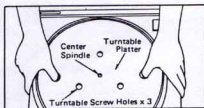

Fig. 9
5. Securing the turntable platter (Fig. 9 & 10)